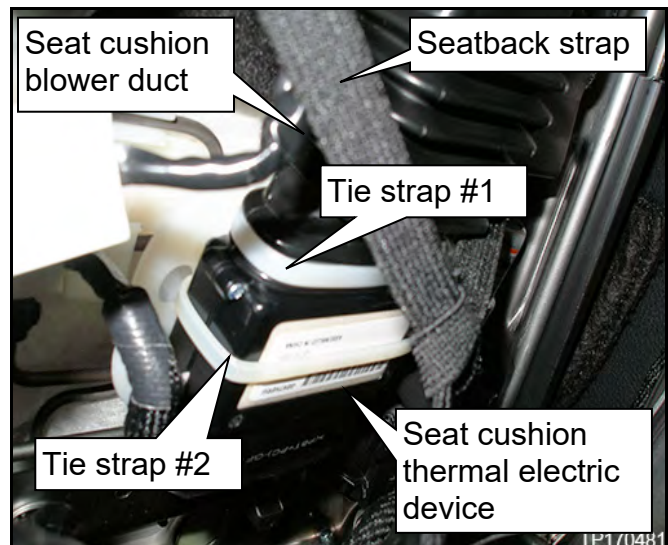

Figure 2
2. Verify seat cushion thermal electric device tie strap #1 and tie strap #2 are in place in both locations shown in Figures 2 and 3.